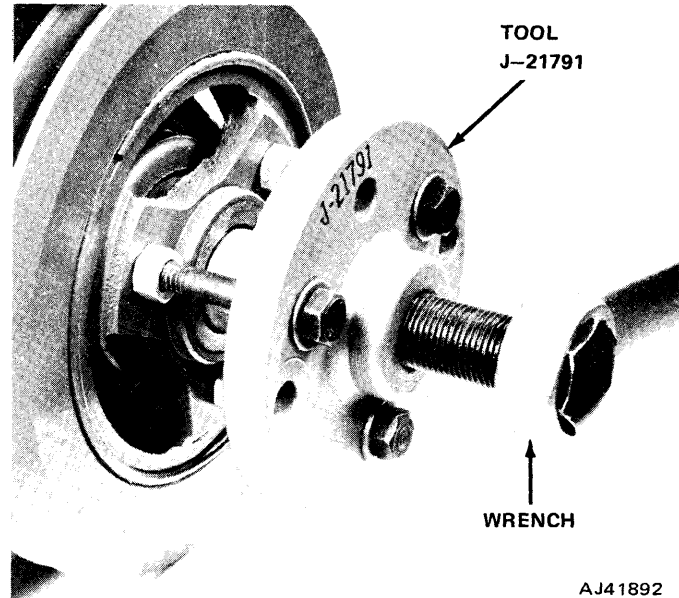

Fig. 1A-22 Vibration Damper Removal
(1) Remove drive belt(s).
(2) Remove three retaining capscrews and separate vibration damper pulley from vibration damper (if equipped).
(3) Remove vibration damper retaining bolt and washer.
(4) Use Vibration Damper Remover Tool J-21791 to remove damper from crankshaft as shown in figure 1A-22.